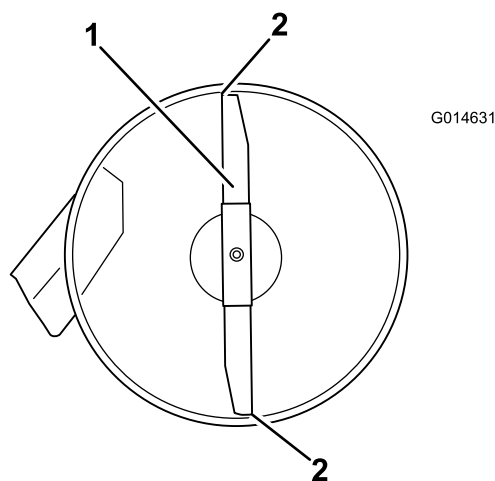

Figure 53
4. Carefully rotate the blades so they are facing front to rear (Figure 53).
5. Measure from the tip of the front blade to the flat surface and the tip of the rear blade to the flat surface (Figure 53).
9. After adjustment, check the front-to-rear slope again, continue adjusting the nut until the front blade tip is 1.6 to 7.9 mm (1/16 to 5/16 inch) lower than the rear blade tip (Figure 53).